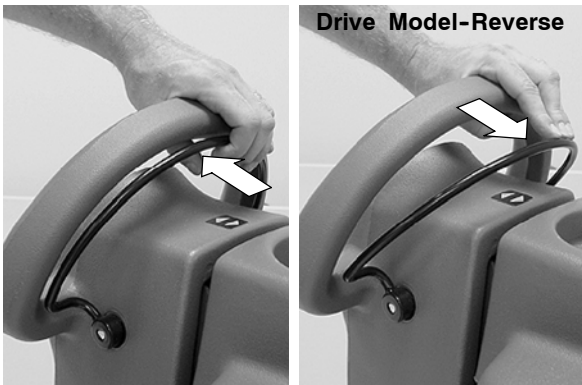

FIG. 17
- Pull the control handle bail backwards to start scrubbing (Figure 17). The drive model will automatically propel forward. To reverse the drive model, simply push the control handle bail forward.